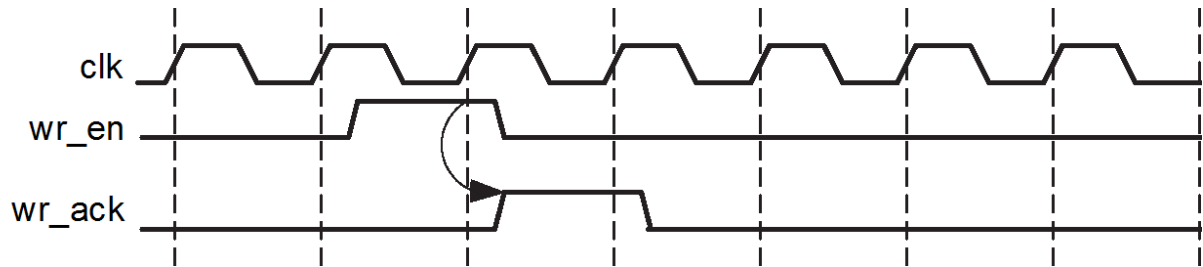

Figure 3-40: Latency 0 Timing
**Note:** Latency is defined as the number of clock edges after a read or write operation occur before the signal is updated. Example: if latency is 0, that means that the signal is updated at the clock edge in which the operation occurred, as shown in Figure 3-40 in which  $\text{wr\_ack}$  is getting updated in which  $\text{wr\_en}$  is high.